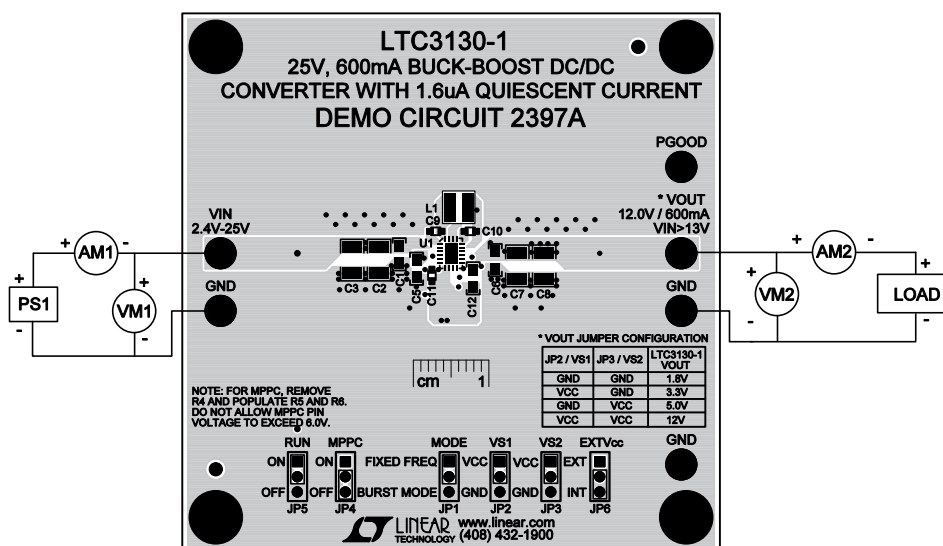

Figure 4. Proper Measurement Equipment Setup
Using short twisted pair leads for any power connections and with all loads and power supplies off, refer to Figure 4 for the proper measurement and equipment setup. The power supply (PS1) should not be connected to the circuit until told to do so in the procedure below.
2. With power OFF connect the power supply (PS1) as shown in Figure 4. If accurate current measurements are desired (for efficiency calculation for example) then connect ammeters in series with supplies as shown. The ammeters are not required however.
3. Connect a 50mA load (240Ω) to V_{OUT} as shown in Figure 4 .